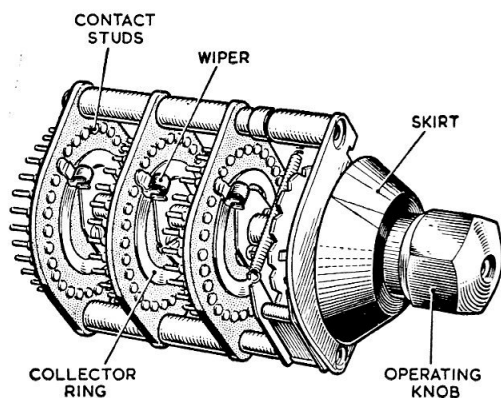
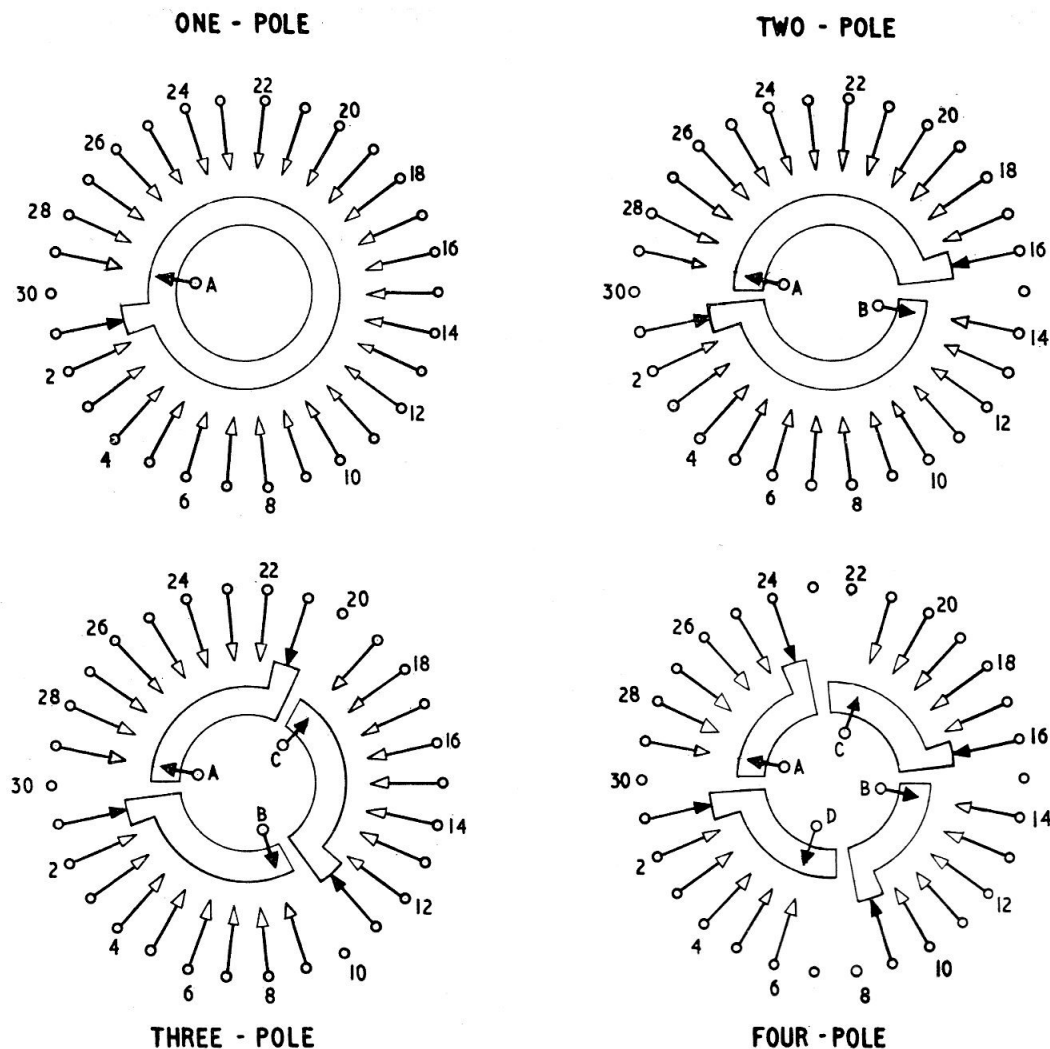

Fig. 1. Typical rotary switch
Fig. 2. Contact arrangements (make-before-break)
2. A general view of a typical switch is shown in fig. 1, and the contact arrangements in figs. 2 and 3. The switch consists of a number of banks operated from a common spindle.
3. Three types of spindle are available. Spindle A is designed for use with a hexagonal knob (fig. 1) and has a 6 B.A. tapped hole in it. The B type of spindle is suitable for the fixing of extension spindles. Spindle C has an  $\frac{1}{8}$  in. dia. hole drilled diametrically through it.